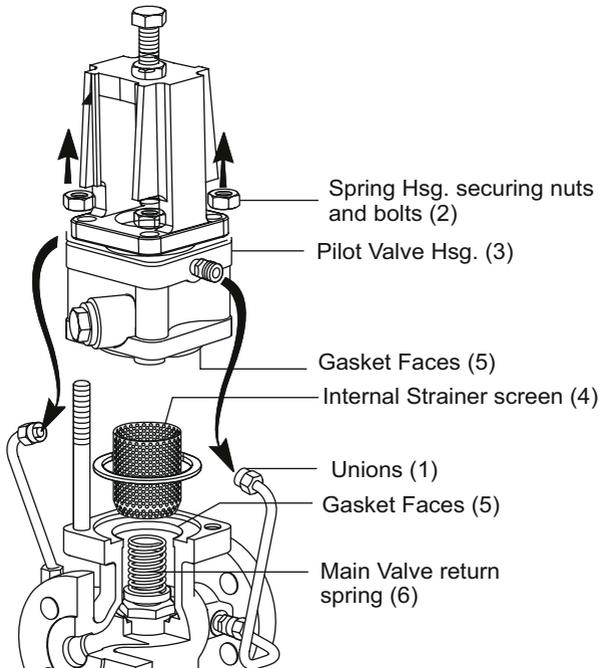

Figure 10 : Procedure to clean or replace the internal strainer screen
7.7. Procedure to clean or replace the internal strainer screen: (Refer to Figure 10)